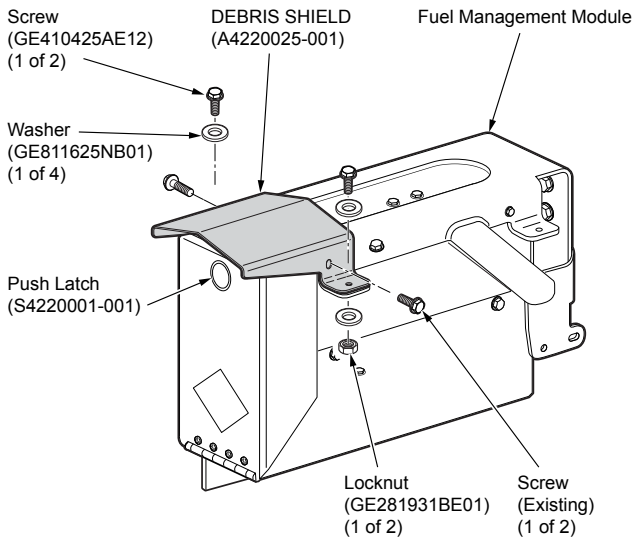

Figure 3
5. Utilizing the washer set aside in step 4, install the new push latch (S4220001-001) (see *Figure 3*).
6. Align the debris shield (A4220025-001) with the screw holes from step 3 and reinstall the 2 screws removed in step 3 (see *Figure 3*).
7. Install 2 screws (GE410425AE12) with 2 washers (GE811625NB01) and 2 locknuts (GE281925BK01) with 2 washers (GE811625NB01) to both sides of the debris shield (see *Figure 3*).